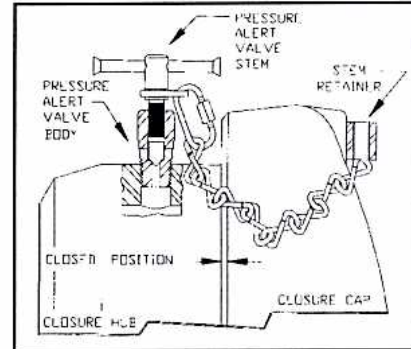

FIGURE No. 1
2. If the closure is equipped with a Pressure Alert Valve (PAV), remove the PAV stem from the PAV body. Screw the stem into the retainer on the cap. See **FIGURE No. 1**.
3. Check that reference marks have been made indicating the "Closed Position" of the cap, as illustrated in **FIGURE No. 1** and **FIGURE No. 2**. If not, make a temporary mark across the back of the cap and hub. Then follow the "**Initial Start-Up**" in **Section Three** for marking the "Closed Position" of the cap. Closures equipped with a Closure Actuator Tool (CAT Tool) contain factory established closed tight reference marks on the hinge socket and cap, as illustrated in **FIGURE No. 2**.
Tighten the cap until the reference marks are aligned as illustrated in **FIGURE No. 1**. This indicates metal-to-metal contact between the cap and hub sealing surfaces.
4. Mark this position on the cap and hub for future reference, as illustrated in **FIGURE No. 1**, to indicate the point at which the seal areas are fully engaged.